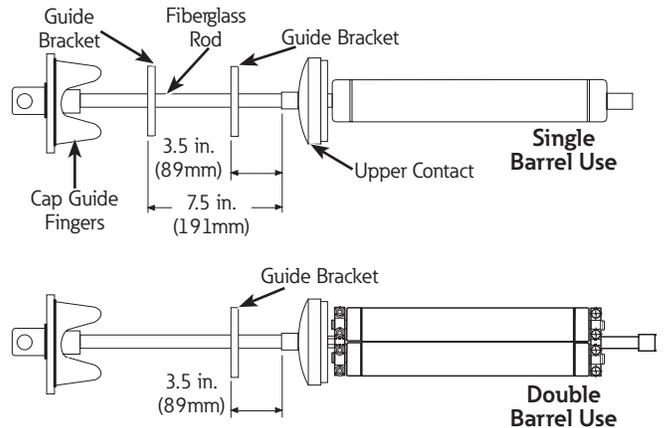

Figure 8. Fuse assembly consists of handle assembly plus ELSG fuse. (Plus guides, where applicable.)
- The guide(s) is to be installed on the fiberglass rod of the handle assembly as shown in Figure 8 to guide the fuse straight into the wetwell holder.
The spacing of the guides as shown in Figure 8 are critical to within $\pm 1/2$ inch.